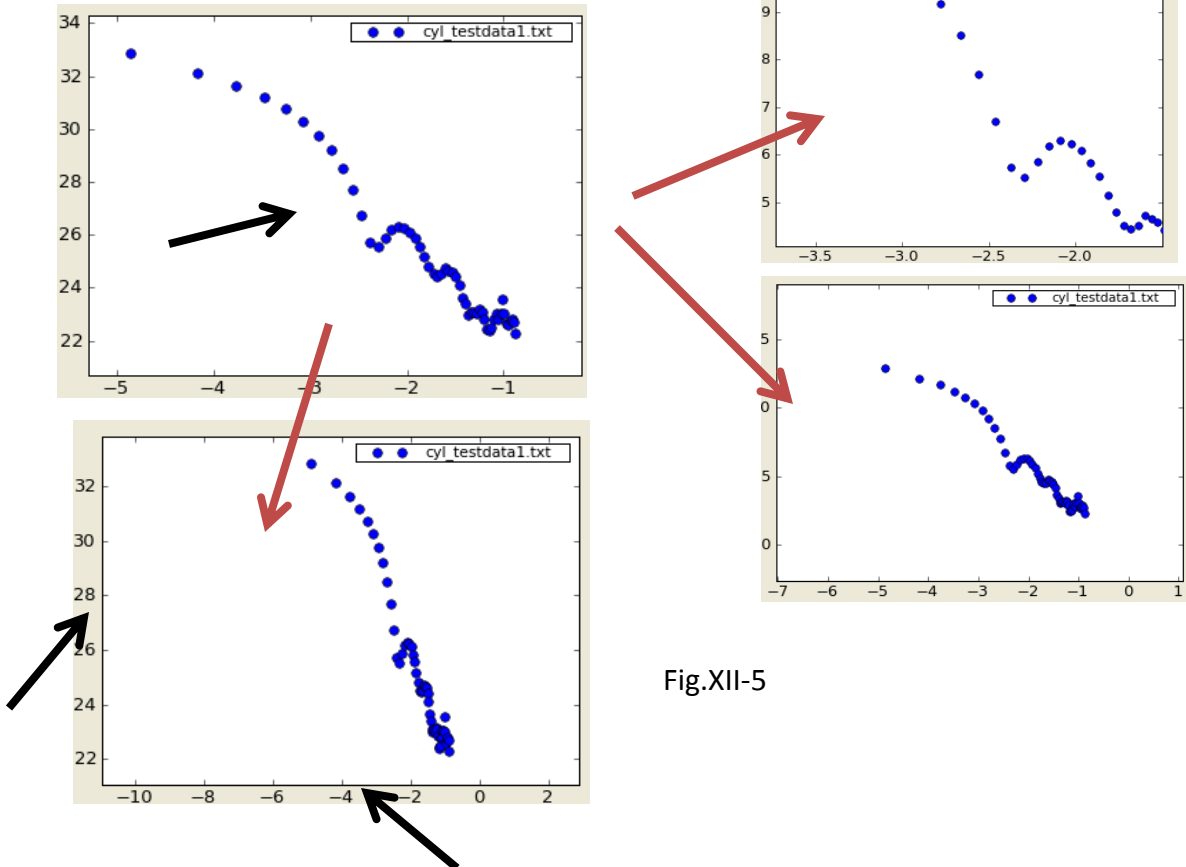

Fig.XII-5
A) for both x- and y-axis; one-click in the plot panel, locate your pointer inside the axes then rotate the roller at the center of your mouse to zoom in and out (Fig. XII-5).
B) The x- or y- axis separately; click once in the plot panel, locate your pointer (black arrows in Fig. XII-5) somewhere between the axis line and label, and use the mouse roller to zoom in and out the axis as desired.